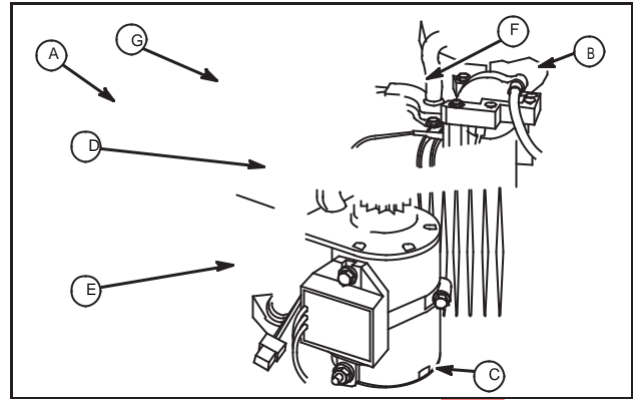

Fig. 1 – Remove Back Plate And Starter Motor
1. Remove the following parts, Fig. 1.